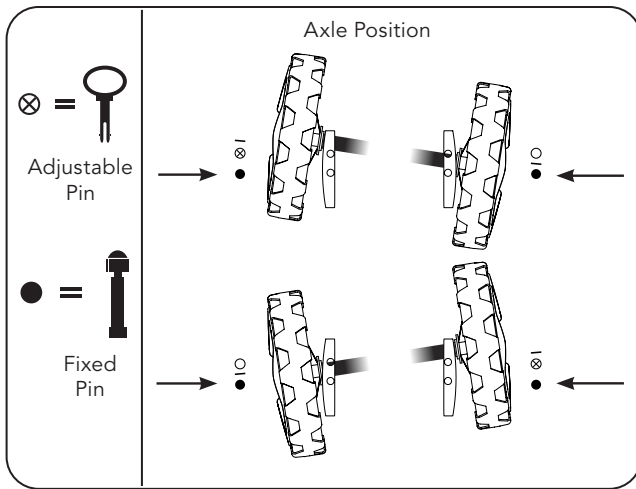

Figure 9. Alternate Wheel Axle Pins
2. Reverse the positions of adjustable and fixed wheel pins (Figure 9).